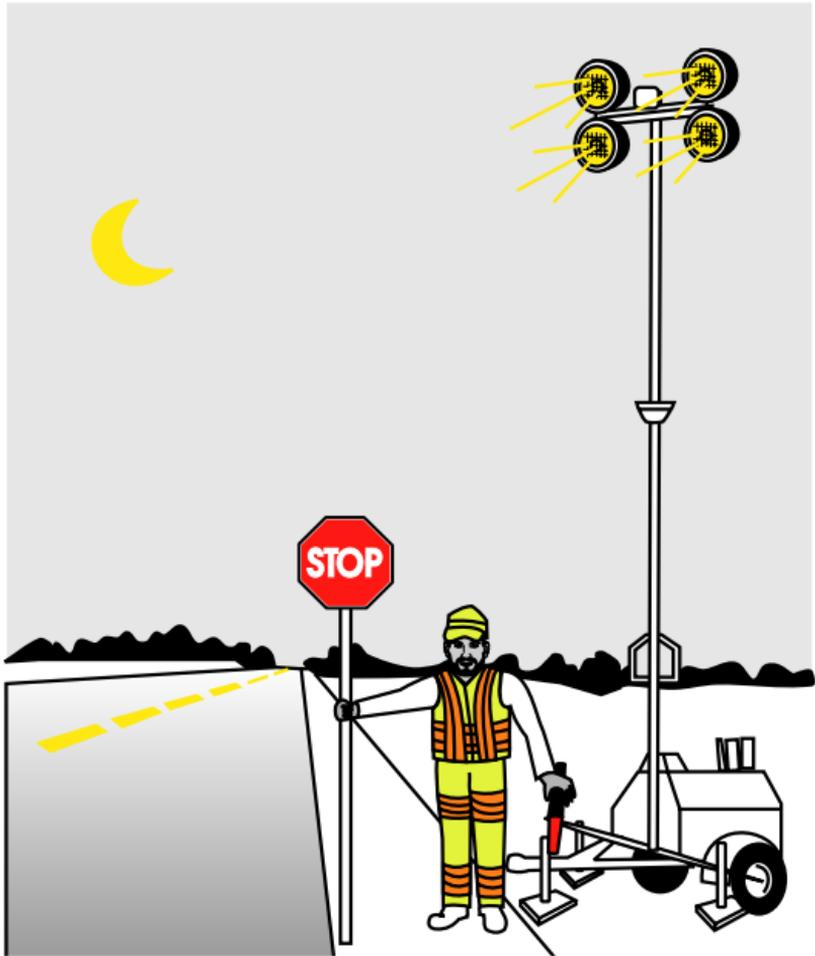

Figure 10
At night, flaggers shall be equipped with the following (see Figure 10):
- a lighted flagging station (see Figure 10).